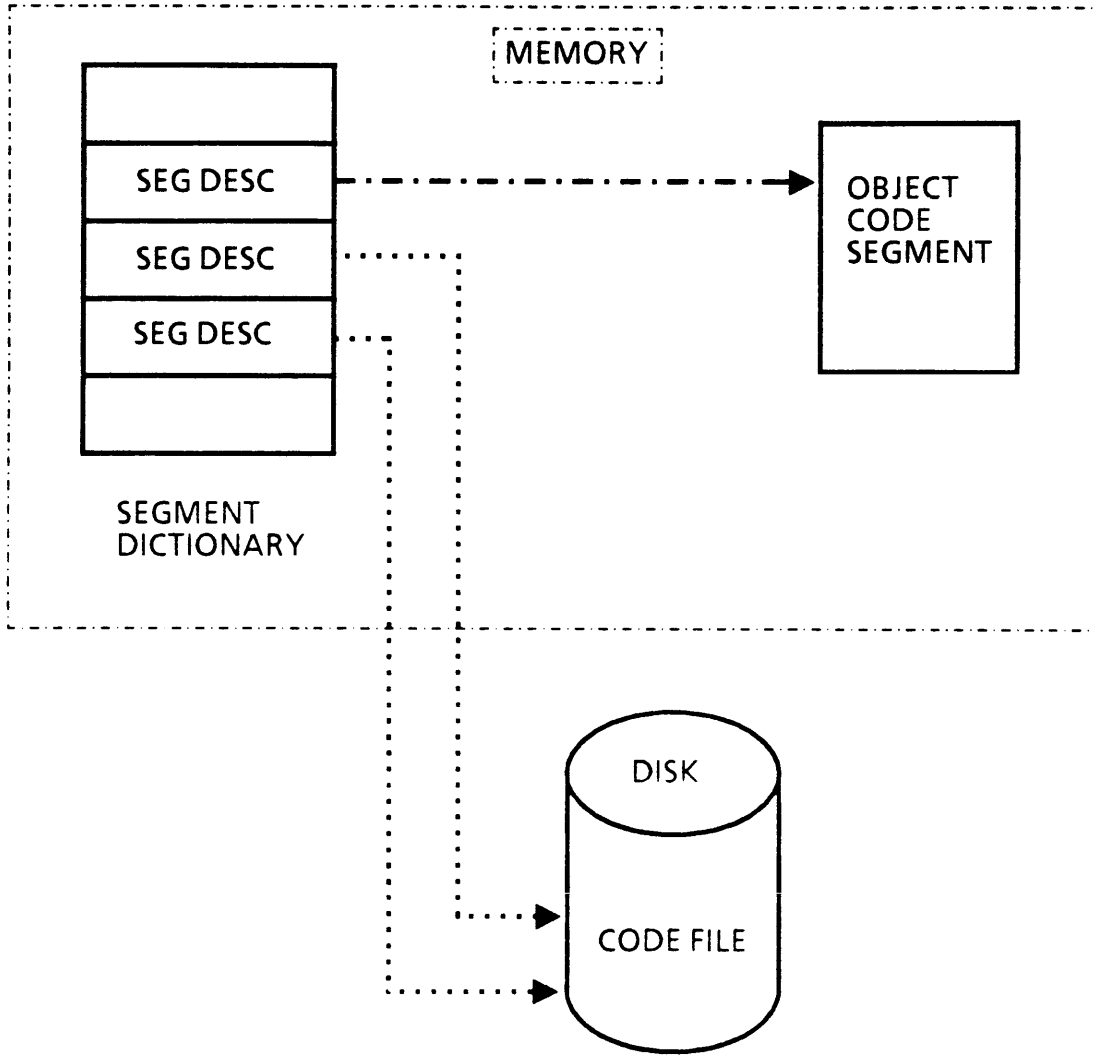

Figure 9-3 Segment Descriptors
10. Updates the Segment Descriptor to point to the object code segment in memory, instead of on disk, as shown in Figure 9-3.